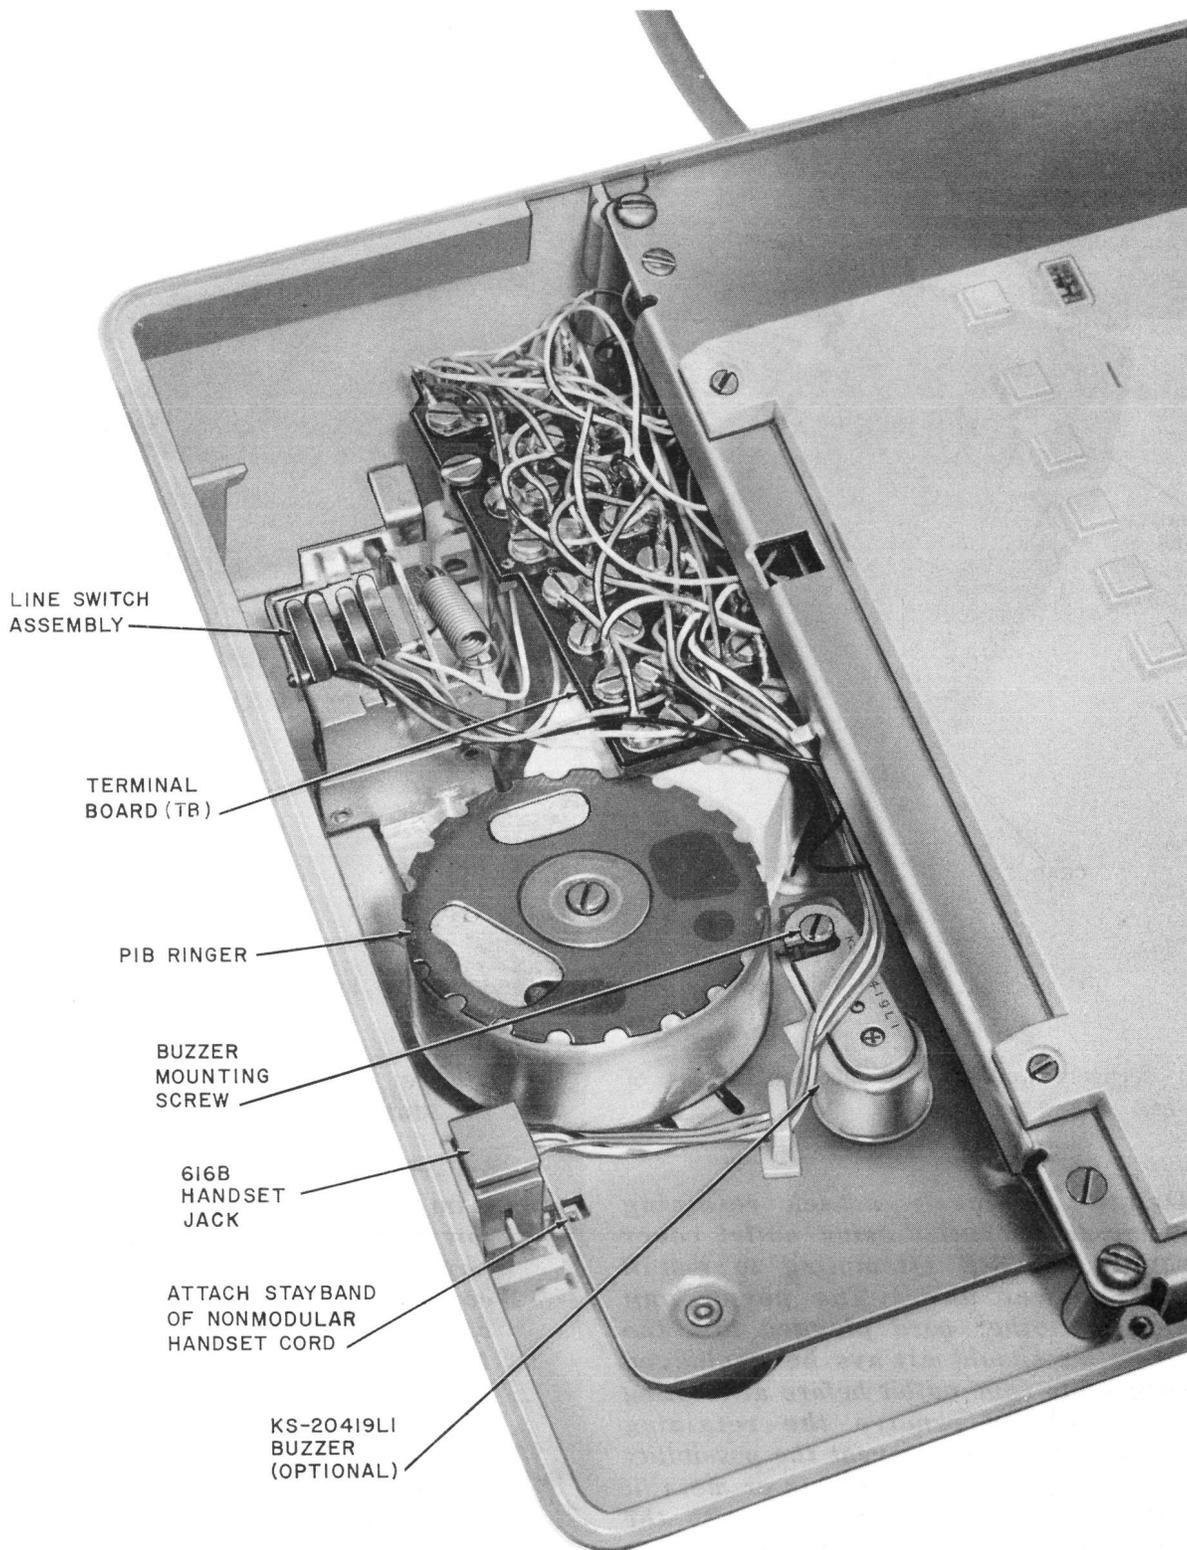

Fig. 3—Telephone Set With Faceplate, Handset, and Handset Cradle Removed
- (1) Remove faceplate (paragraph 3.19) and place handset aside.
- (2) Remove handset cradle (paragraph 3.20).
- (3) Remove screw from buzzer mounting bracket, and mount buzzer on bracket shown in Fig. 3.